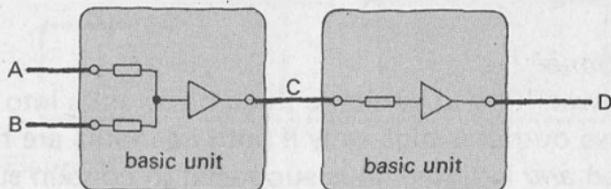

Figure 43
**16** Figure 43 shows two basic units used as *nor*-gates, one connected to the output of the other. Complete table 4, giving the output of the combination.
**17** This question is about a system, based on that in figure 43, with a strange new property. It is a very useful system, much used in computers.
Join D to A in figure 43, and forget input B. If A is low, what is C?